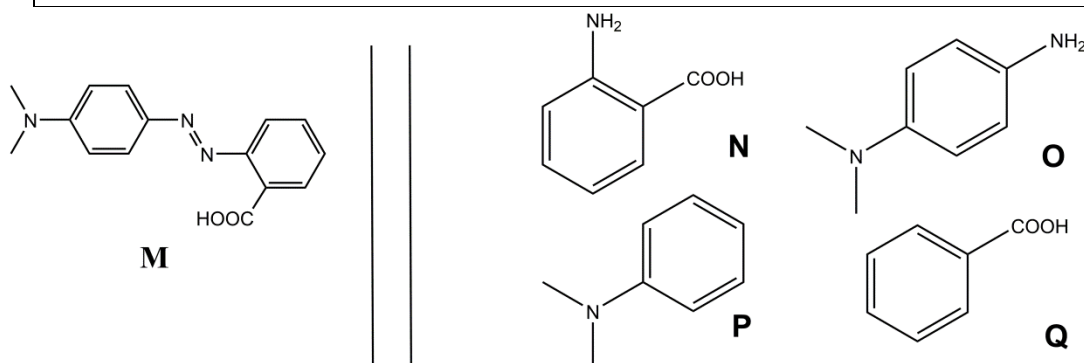

Fig. 1 – Possible reactants for the synthesis of **M**.
2. **M** can be synthesized in two steps from simple reactants (Fig. 1). **Choose** from among the suggested reactants (**N** to **Q**) which reactants provide **M** with very high regioselectivity. Sodium nitrite ( $\text{NaNO}_2$ ) in cold aqueous hydrochloric acid is used as reagent for the first step of the synthesis.